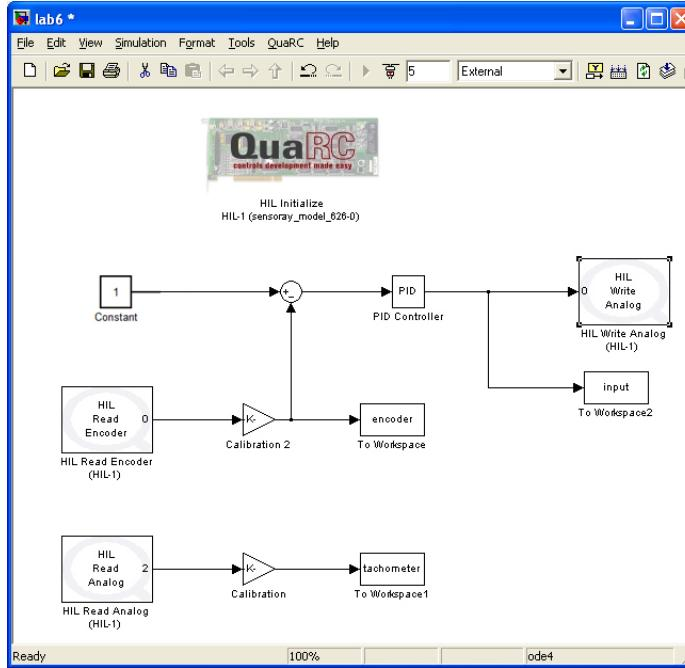

Figure 8.2: Simulink model for the implementation of PID control using frequency response method; step reference
1. Open Matlab and build a Simulink model according to Figure 8.2.